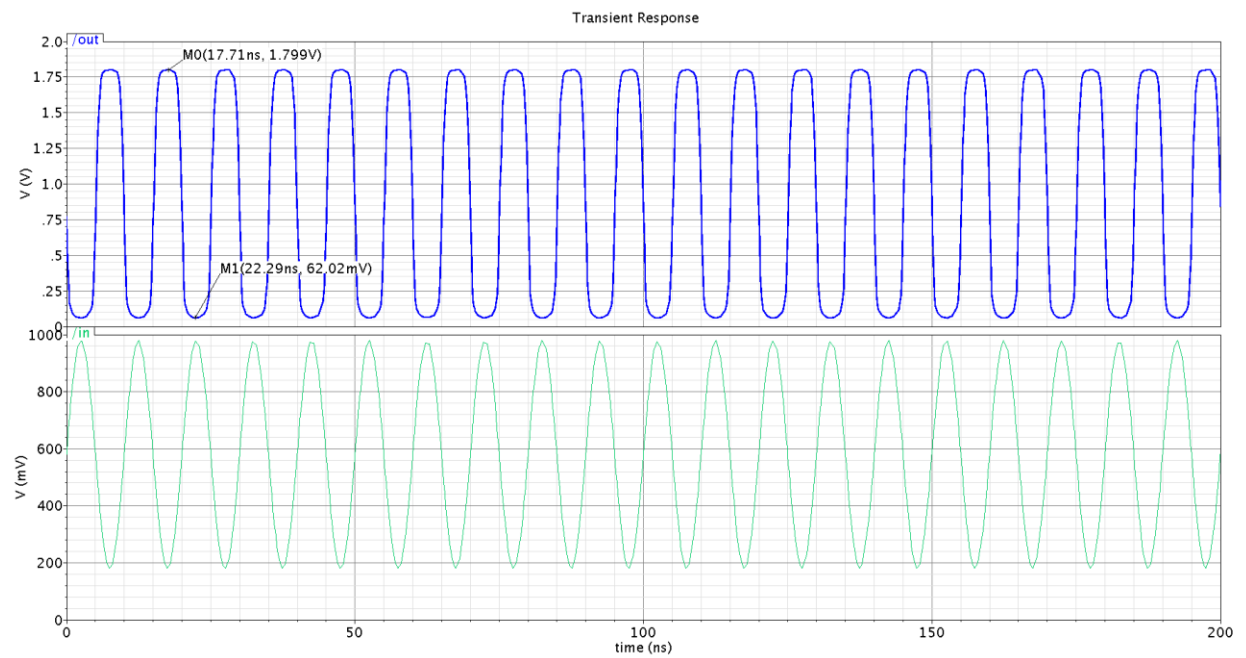

Fig. 1.4. Output voltage swing of CS with resistive load
- This system has a great swing. From calculation it is V_{dd} to V_{ov} i.e. 1.8V to 0.2V but from figure 1.4 it is peak to peak 1.7 V